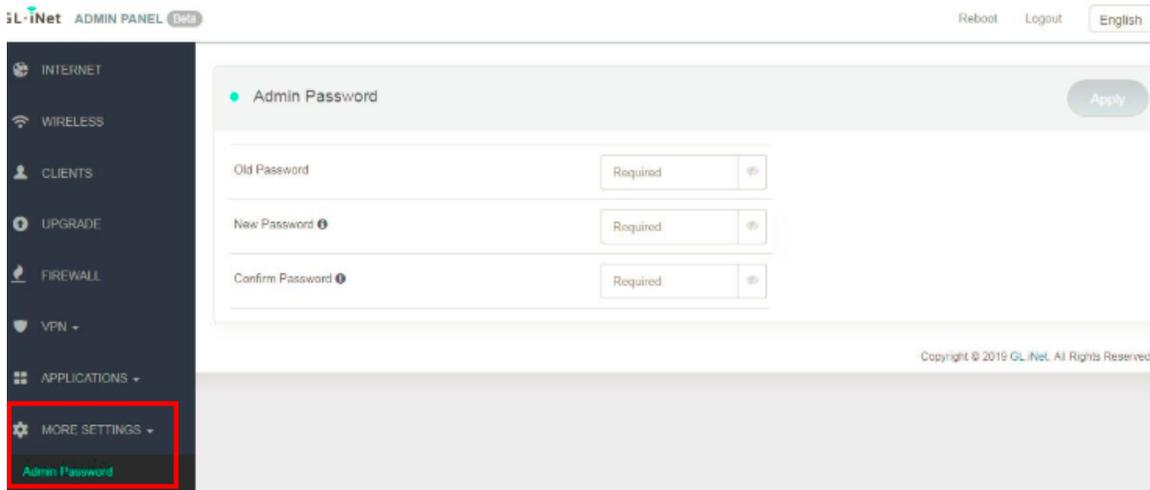

Figure 9: Admin Password Panel
- a. On the left side of the screen, navigate to **MORE SETTINGS > Admin Password**. (See Figure 9).